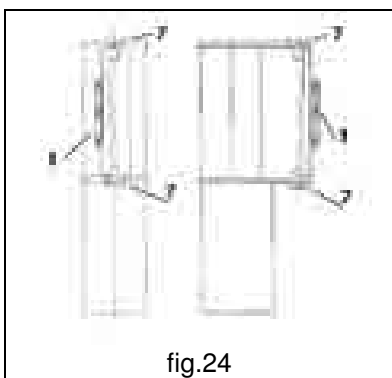

fig.24
- c. Check the verticality of the rotation axis, by using a level **L** and a bar which must be resting directly on the rotation pivots **7** (fig.24).